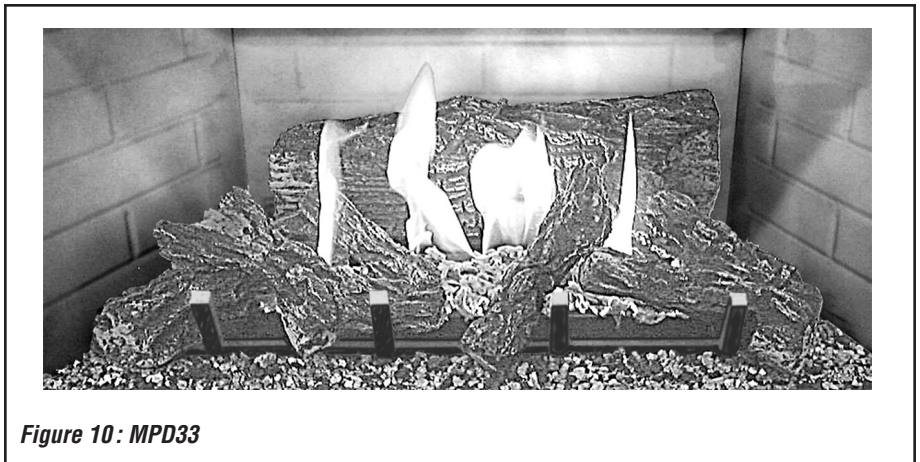

Figure 10: MPD33
1. Refer to **Figures 10, 11, and 12** for proper flame appearance. To adjust the flame, rotate the adjustment rod toward the back or toward the front of the fireplace (rod located in the lower control area). Position the air shutter to the factory setting as shown in the table in **Figure 13**.